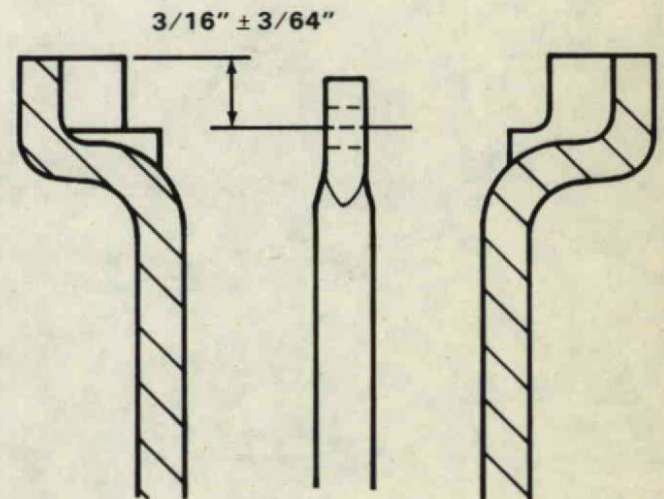

Figure 39. Gear Shift Rod Adjustment.
- B. Measure from middle of hole in rod to top mounting surface of upper gear housing. Hole should be 3/16" ± 3/64" (4.75 mm ± 1.19 mm) below surface. Figure 39. Flared indented end should face rear starboard hole of upper gear housing.